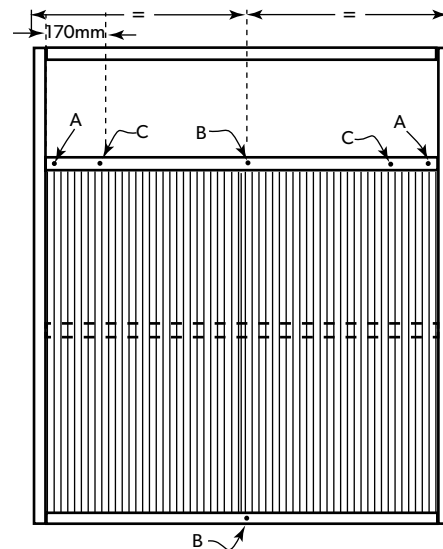

FIGURE 23.5:
4. If required, trim the lattice to fit the width of your gate. Equally trim both ends to retain a balanced effect (Figure 23.5).
15. If your gate includes a lattice, insert it into the top rail. Swing the bottom of the lattice in, and secure it to the lower top rail using 3 hex. head screws for standard width gates, or 3 for extra wide gates. Secure it also to the top rail: 2 screws for standard width gates, and 3 screws for extra width gates (Figure 23.5).